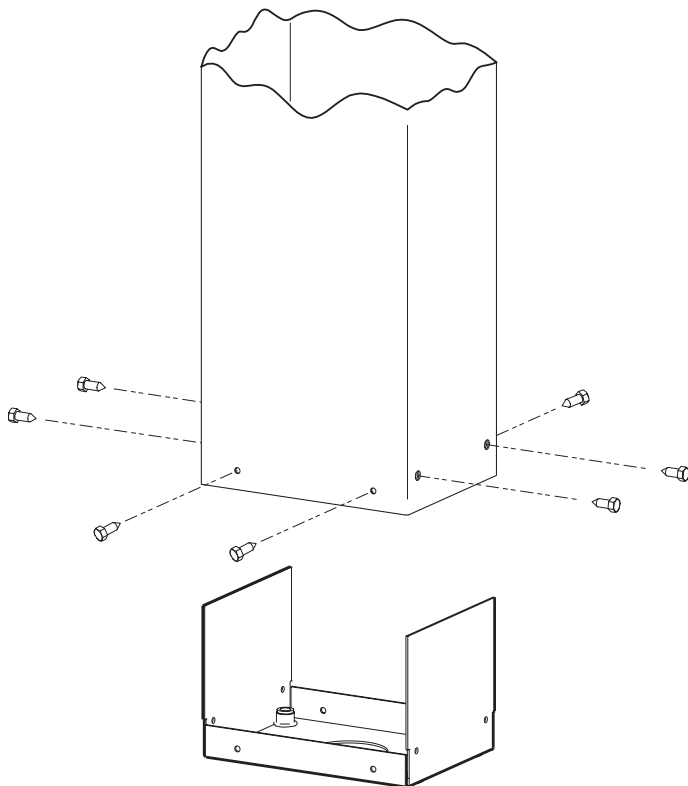

Figure 1
1. Attach lower bracket assembly to post with eight #10-1/2" screws. See Figure 1.